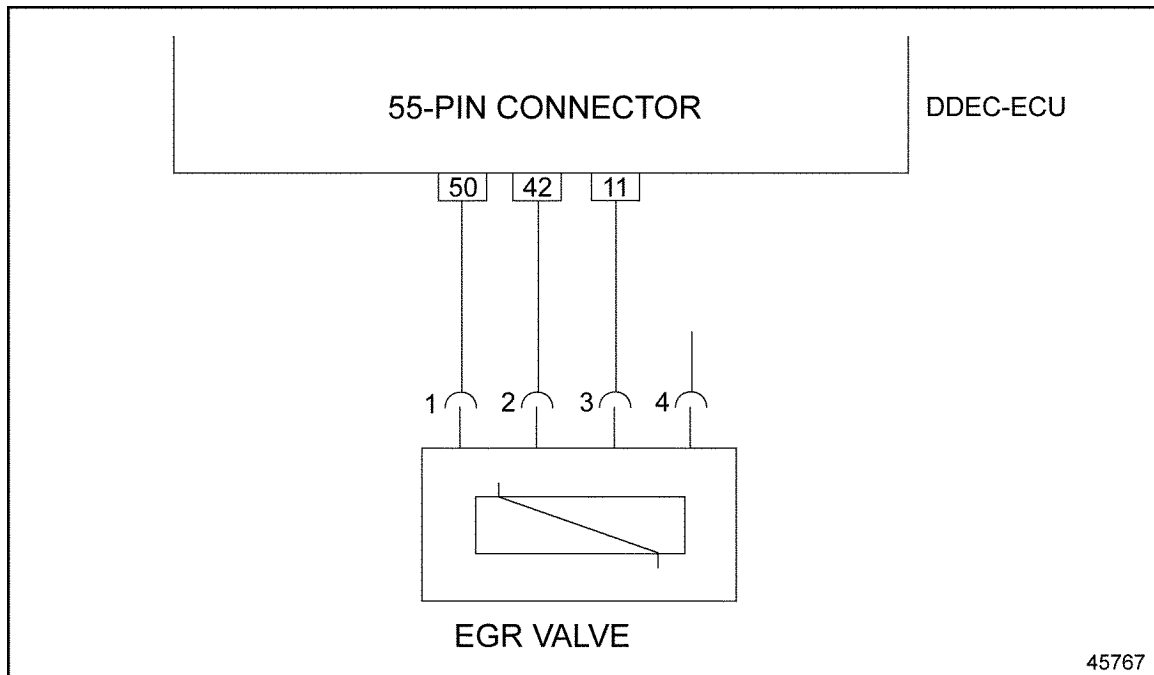

Figure 4-5 EGR Valve Wiring Diagram
2. Check the engine harness wiring from the 55-pin connector to the EGR valve connector. See Figure 4-5.